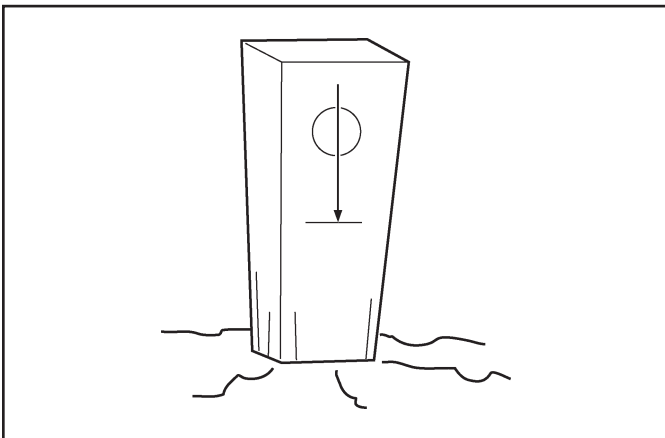

Figure 22. Grade Stake with Elevation Mark
1. Set a minimum of two surveyed grade stakes. The stakes must have elevation information (Refer to Figure 22).